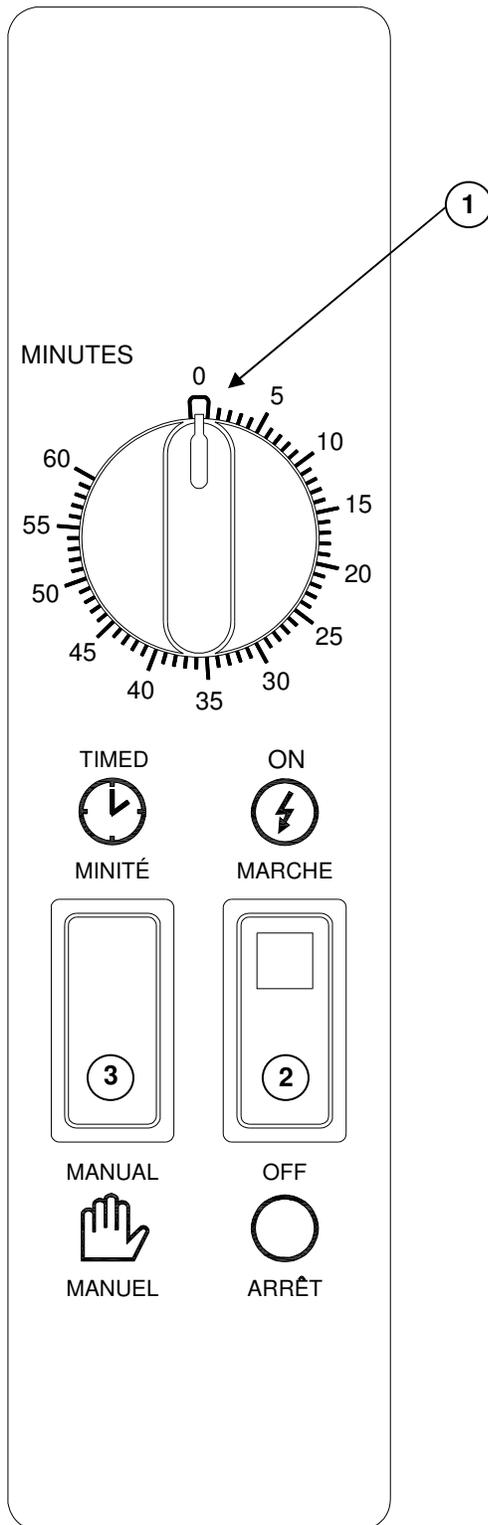

Figure 4-1
2. See Figures 4-1 & 4-2.
- c. See “Timed Mode” and “Manual Mode,” and the Control Panels (Figures 4-1, 4-2) as required.